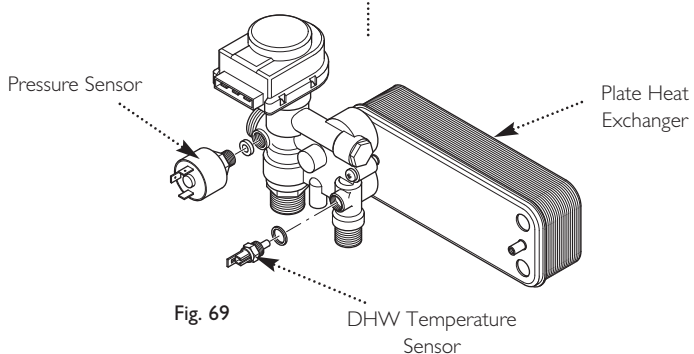

Fig. 69
13.10 Water Pressure Sensor (Fig. 69)
13.12 Safety Thermostat (Fig. 69)
13.13 DHW Temperature Sensor (NTC) (Fig. 69)